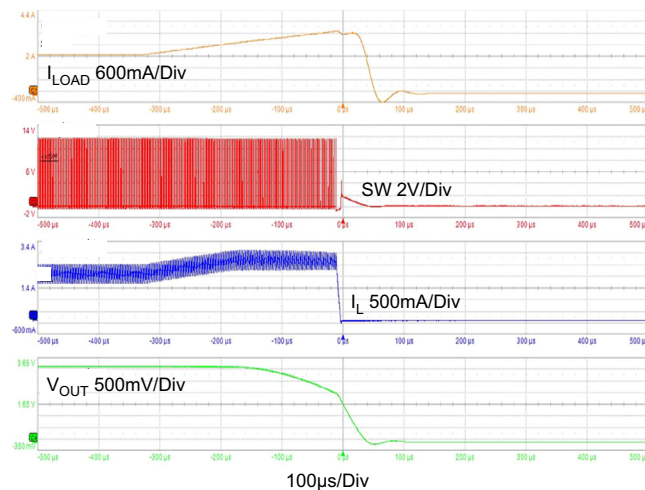

Figure 36. Low-Side Overcurrent (LSOC) Protection
RAA211320 has a  $V_{OUT}$  undervoltage (UV) protection feature. The internal undervoltage comparator compares the FB pin voltage to 65% of the reference voltage. When both LSOC is detected and this voltage drops below 65% of nominal (because of a drop in  $V_{OUT}$  to below 65% of its set point), the regulator stops switching and engages Hiccup mode operation at an interval of 13ms (see Figure 36).